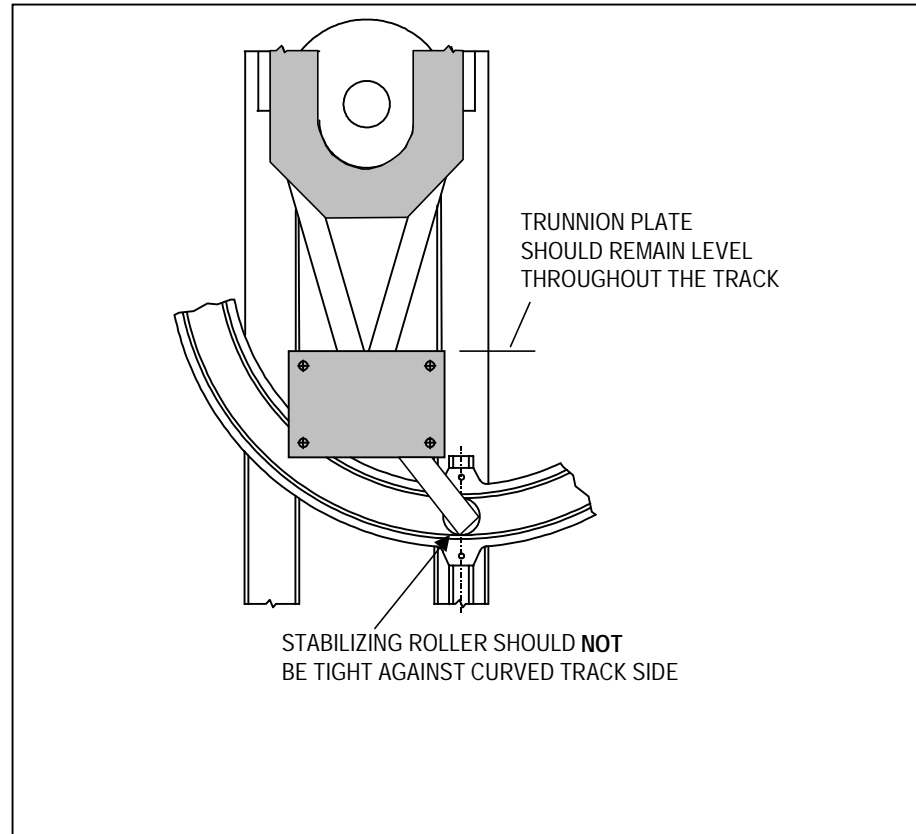

Figure 23. CURVED TRACK ADJUSTMENT
3. Check the position of the curved tracks by moving a trunnion assembly to the bottom of the drive sprockets. With the stabilizer wheel at the bottom of the track, the top of the trunnion plate should be level (see Figure 23).